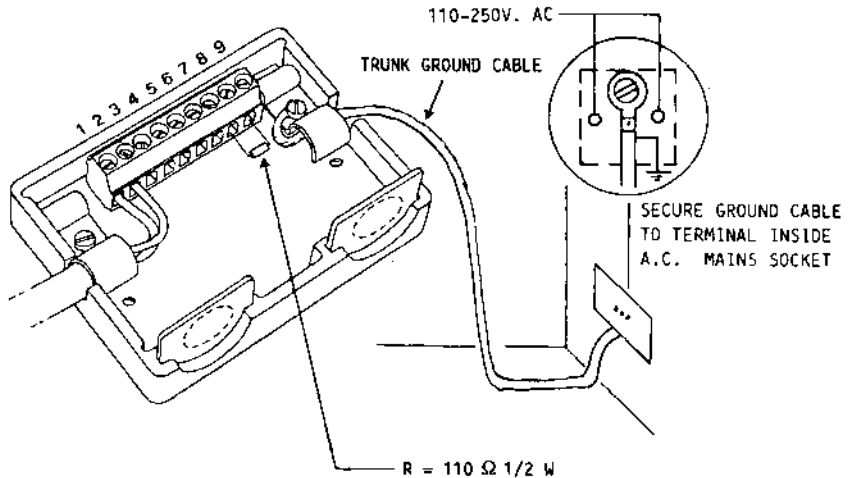

Fig. 2-28 Tap-box at end of trunk
- Each Tap-box has a 110 Ohm, 1/2 W terminator resistor, mounted between terminal strip pins 1 and 2 or 8 and 9. This resistor should be removed from intermediate Tap-boxes and left in place only in the Tap-boxes at either end of the line (see fig. 2-28).